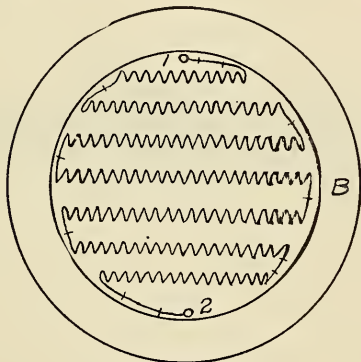

FIG. 2
steel (N) shouldered at (F). The coil spool (S) is threaded at the left end, and into it is screwed the soldering copper (G) which has a flange as a shoulder. A 1-32 inch brass shell (H) protects the heating coil. Mica washers (M) held in place by a steel washer (O) assist in keeping the heat from reaching the handle. The wires from the coil are brought out through holes drilled in the mica, the iron washer being cut away as shown in Fig. 2.
To put the wire in the heater start from one side, Fig. 2, and nail the wire down to (2) by small copper staples so that the wire will not work loose and make short circuits. Carry it back and forth as shown. Fasten the two ends to binding posts (1) and (2),